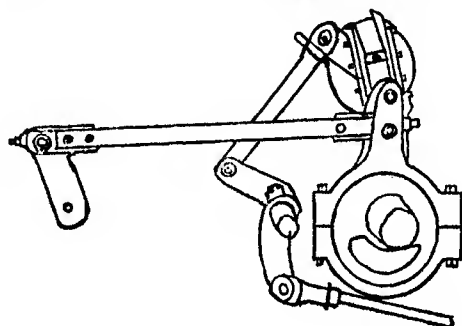

FIG. 83.—SPRINGER CURVED BLOCK REVERSE GEAR.
**The Springer Reverse Gear.**—The improved Springer valve gear is illustrated in Fig. 83. At first glance it appears nearly identical with the Woolf valve gear previously described but it will be seen that the slide block and guide are slightly curved in this gear instead of straight as in the Woolf. This is the only material difference be-